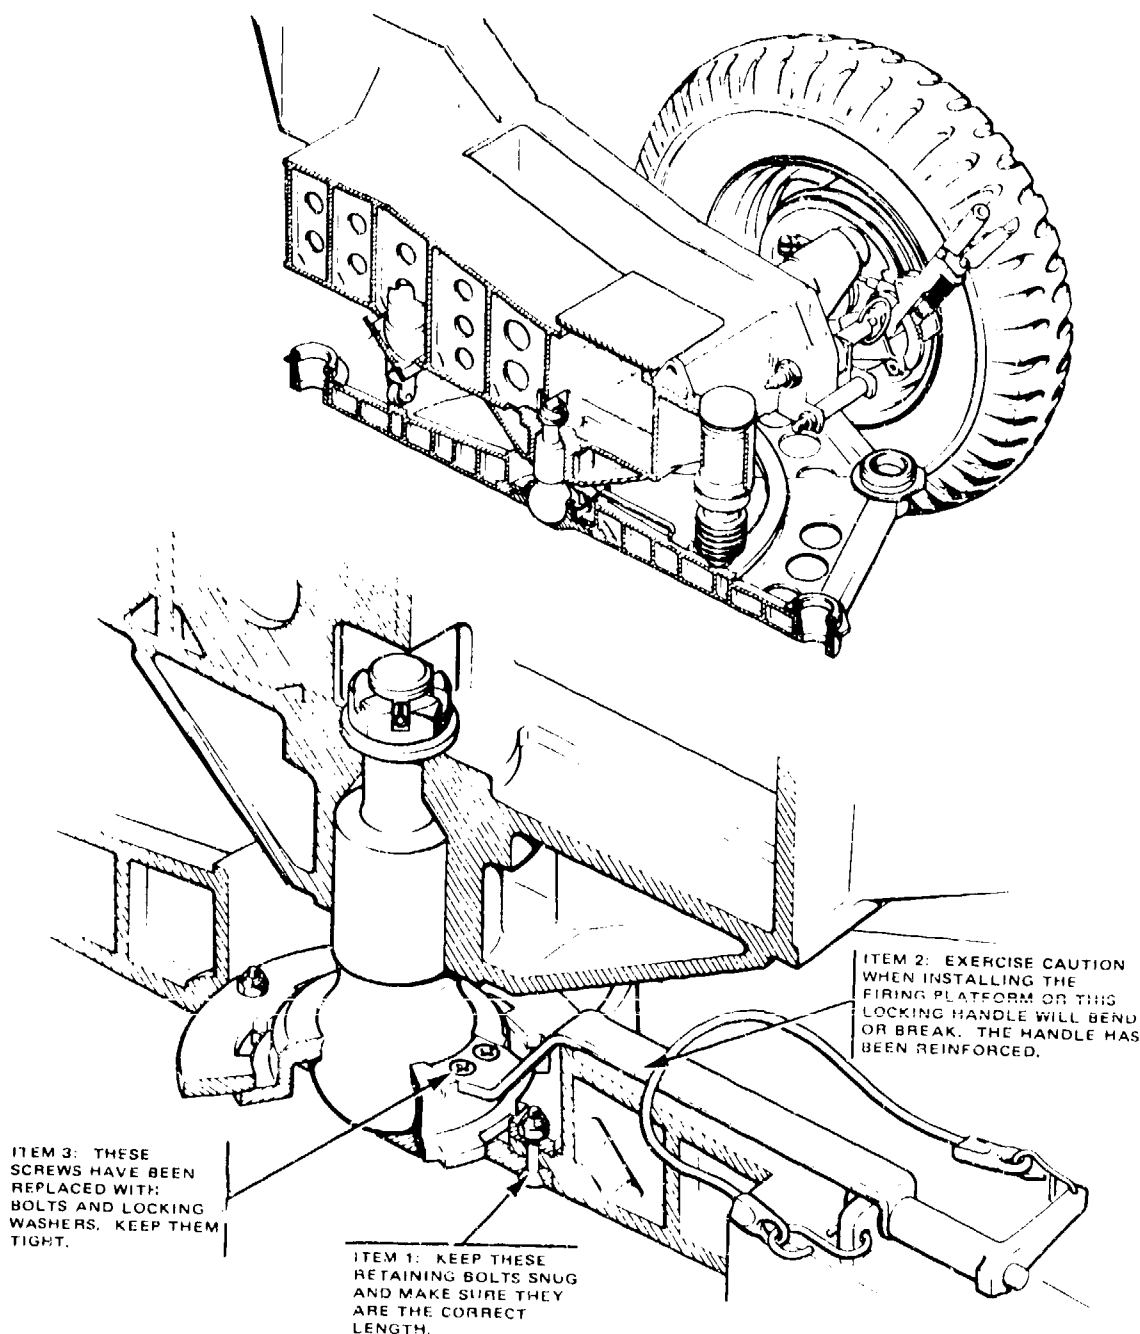

Figure 4-9. Firing platform and locking handle assembly.
**b. Problem areas.** There are three interrelated potential maintenance problems involving components of the M102 firing platform and its locking handle assembly (fig 4-9).
(1) The first problem involves the retaining bolts on the platform locking ring (item 1, fig 4-9), which vibrate loose during firing and can cause the platform to warp and become unserviceable.
(2) The second and third potential maintenance problems in the firing platform area are on the platform locking handle assembly. The locking handle (item 2, fig 4-9) may bend or break when the platform is being installed or removed, and the locking handle retaining machine screws (item 3, fig 4-9) vibrate loose and then are sheared